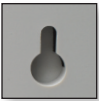

Figure 2
3. Carefully position the Gel Warmer so the large round wells (see **Figure 2**) on the back of the unit will pass over the screw heads.